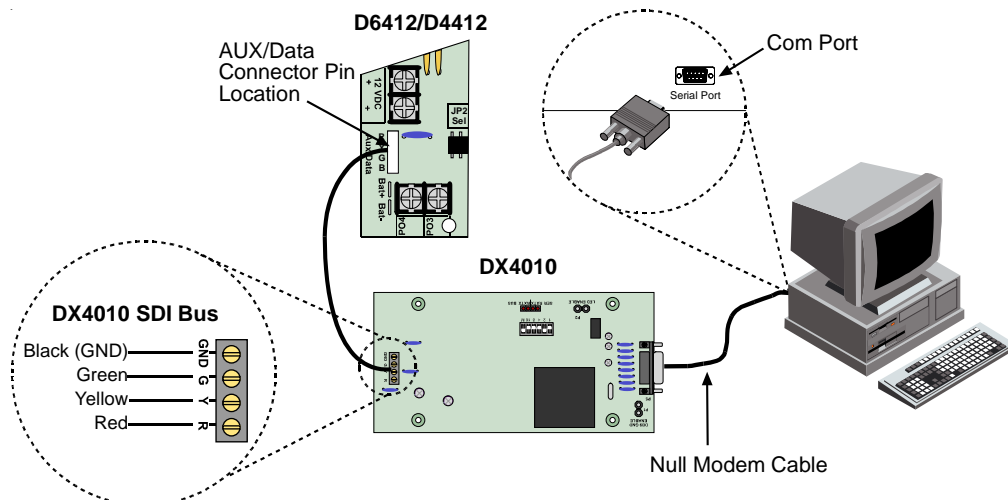

Figure 39: Creating a RAM IV Direct Connection
3. Wire the flying leads of the colored cable connector (included with panel) to the DX4010's SDI Bus terminals. Plug the connector end onto the D6412/D4412. See Figure 39 for details.